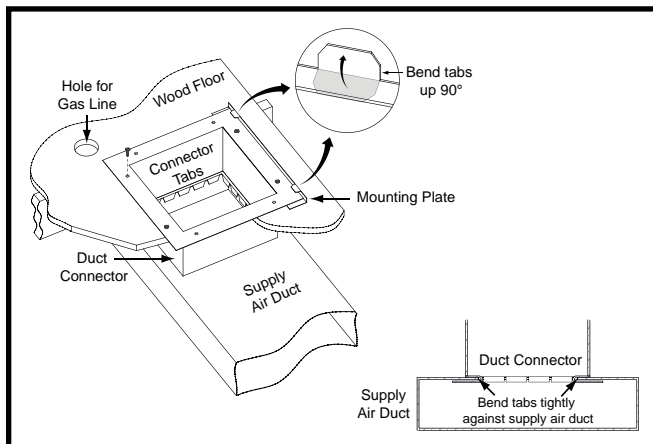

Figure 14. Duct Connector Installed
2. Mark the cut-out area on the supply air duct by tracing around the connector tabs (Figure 14 (page 17)) of the duct connector.
5. Install the mounting plate (Figure 14) under the back side of the duct connector. Align the screw holes in both components.
11. Bend both tabs on the mounting plate (Figure 14) up 90°.
4. Place the A/C coil box on the duct connector until the back side butts firmly against the mounting plate tabs. **NOTE:** Mounting plate tabs must be bent upwards as shown in Figure 14 (page 17) to prevent interference with furnace.